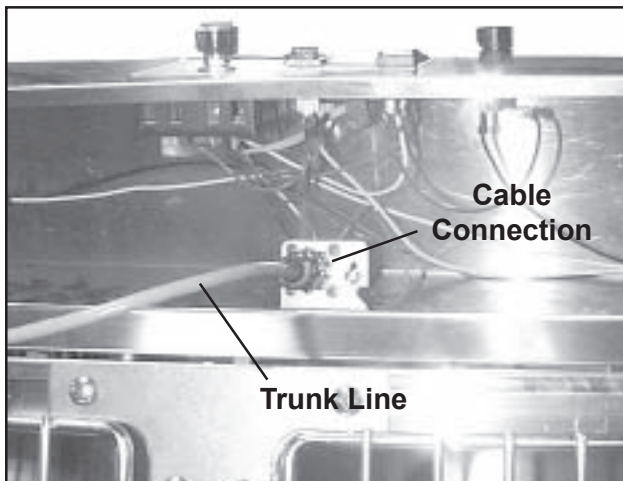

Figure 30. Interior View of Heat Controller Housing (tilted backward)
4. Tilt the heat controller housing backwards so that the open underside faces front (Figure 30).
5. Unplug the trunk line you are replacing from the cable connection on the heat controller (Figure 30).